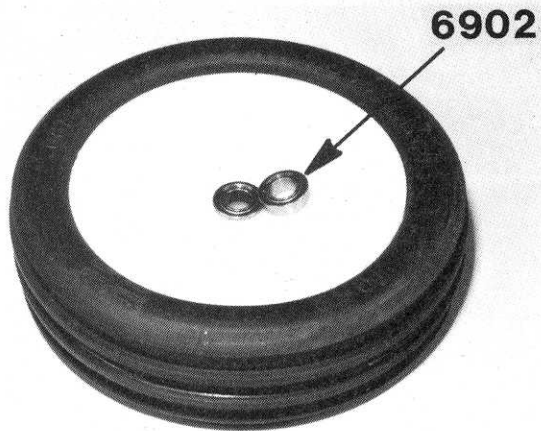

Fig. 128
□ **Figs. 128 & 128a** Install two ball bearings in each front wheel, and then slip the wheels on the front axle, then a washer and then the locknut. Tighten the locknut and make sure the wheel spins freely. If it doesn't, back off on the locknut.